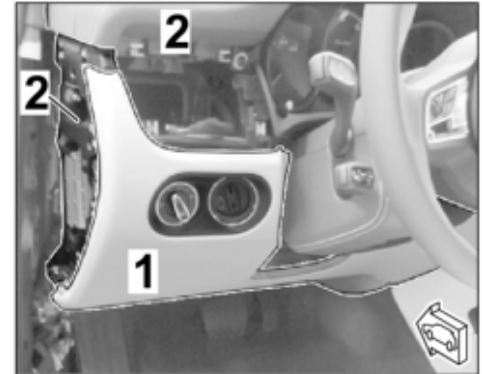

Figure 14
- 1.5.4 Remove trim panel under dashboard (⇒ Figure 14). ⇒ Workshop Manual '701919 Removing and installing trim panel under dashboard on driver's side'